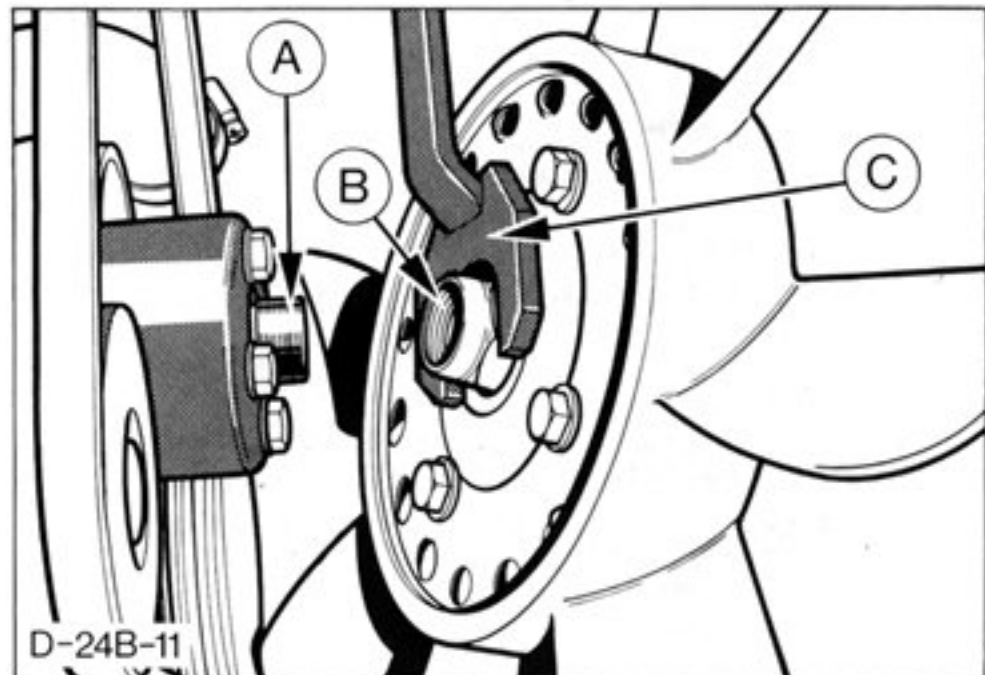

Fig.13. Viscous fan assembly removal.
- Using modified 32 mm spanner, unlock and remove fan and clutch assembly from water pump hub, Fig.13.